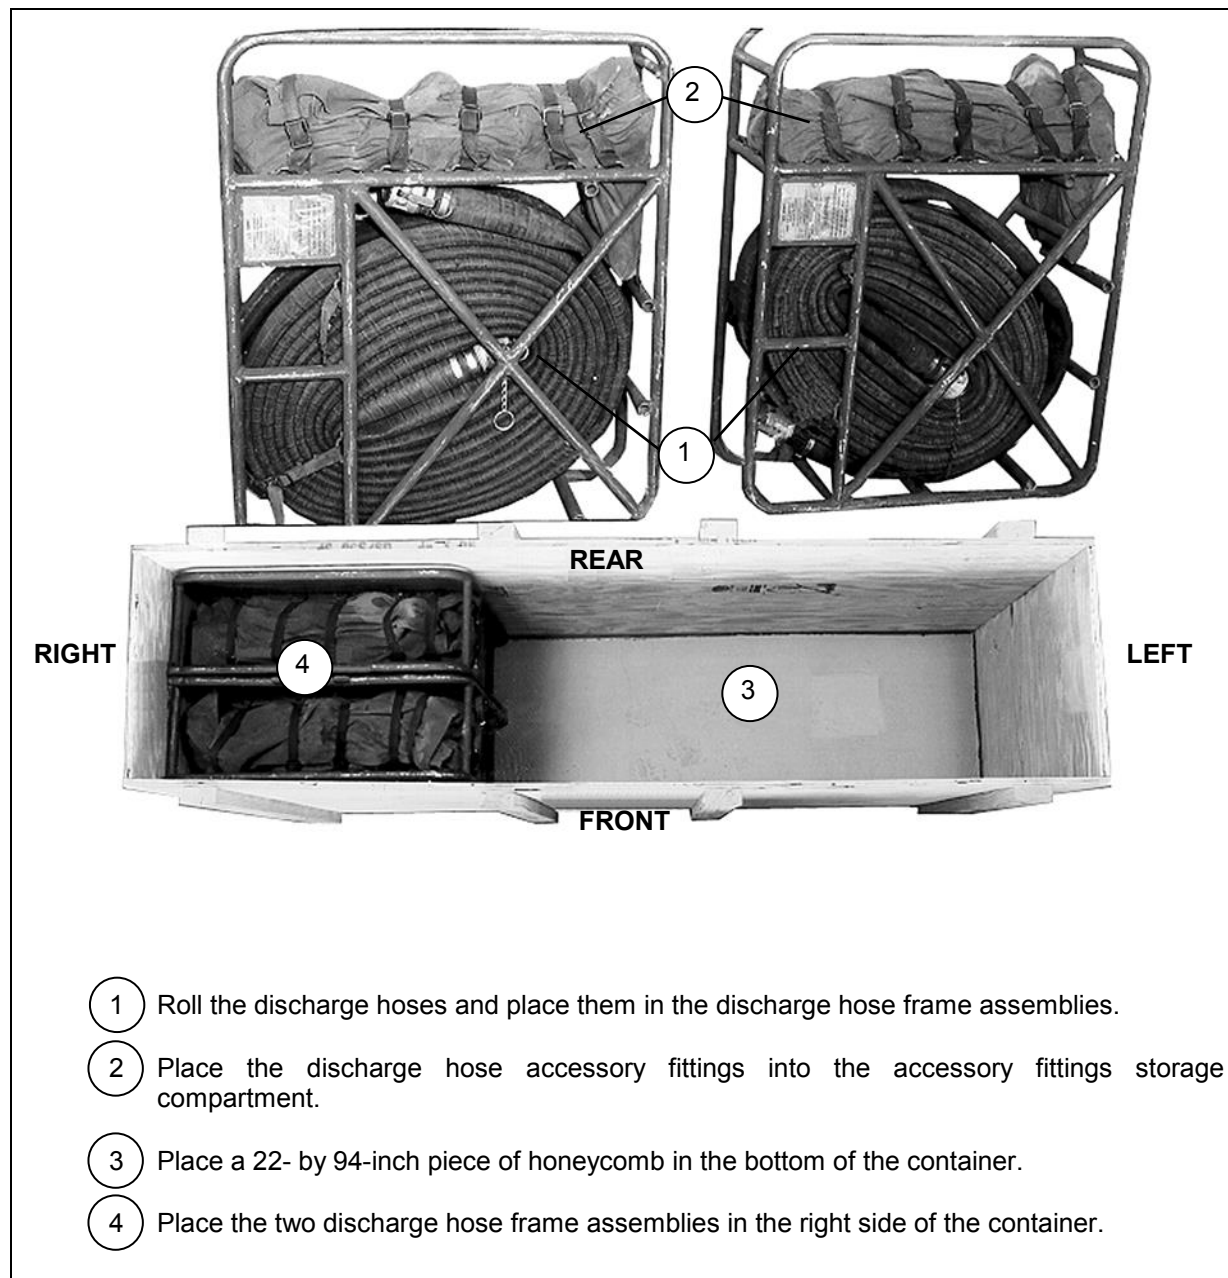

Figure 11-7. Discharge Hose Frame Assemblies Prepared and Stowed
- Preparing Discharge Hose Frame Assembly. Prepare the discharge hose frame assemblies, and stow them in the container as shown in Figure 11-7.